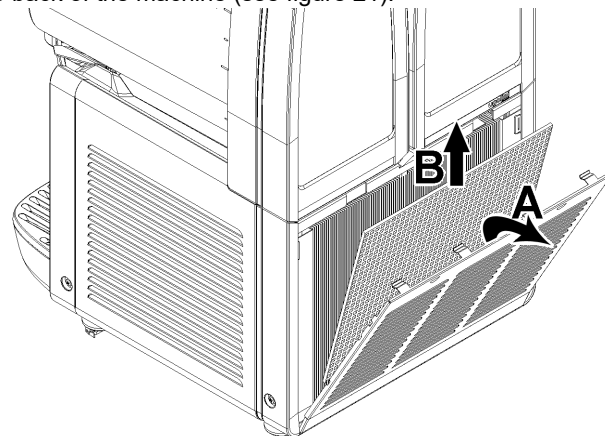

figure 21
- 2 Every month:** remove the dust from the condenser filter on the back of the machine (see figure 21).